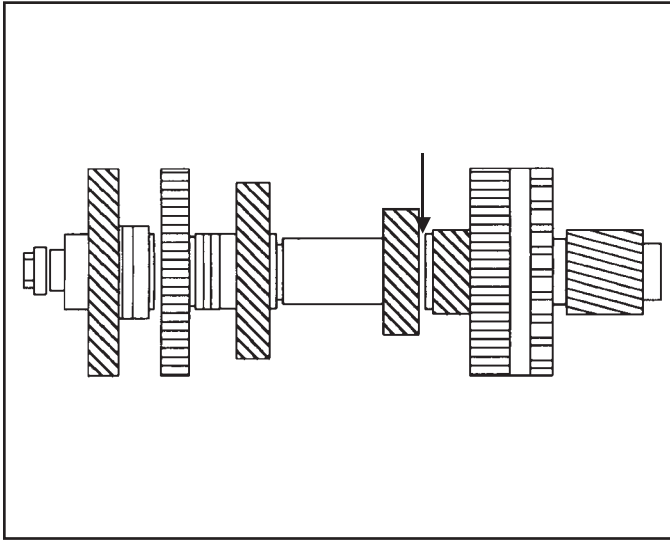

Figure 141
27. Using a feeler gauge, measure the clearance between the 4th driven gear and the 3/4 thrust bearing (See Figure 141). The clearance should be: